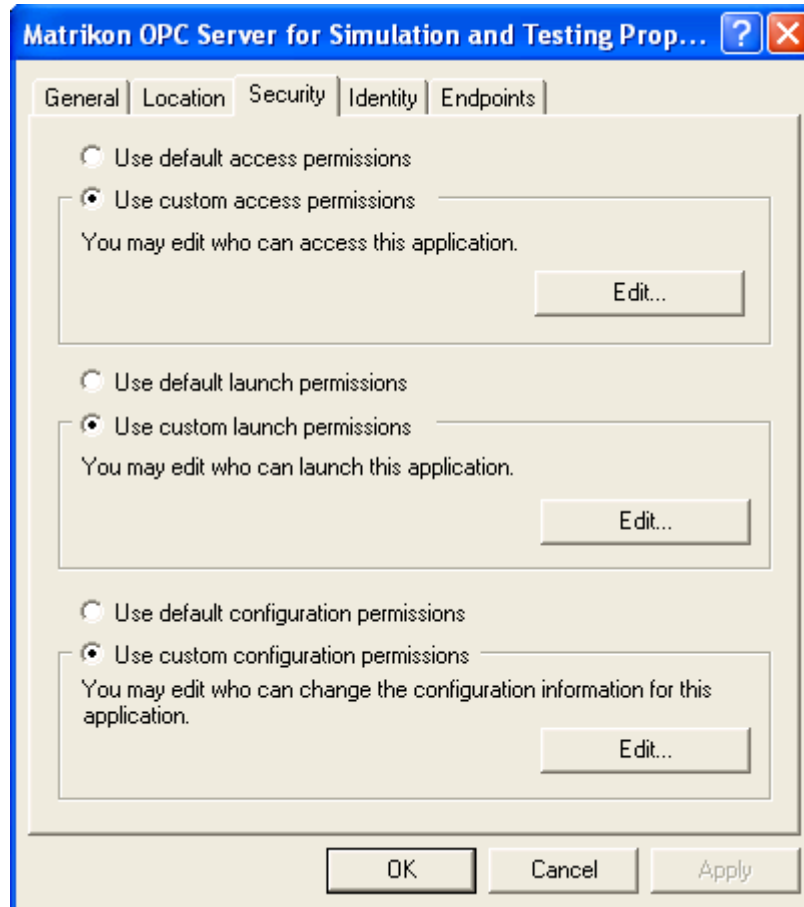

Figure 40 - Distributed COM Configuration Security Tab
5. The **Distributed COM Configuration Security** tab (Figure 40) appears.